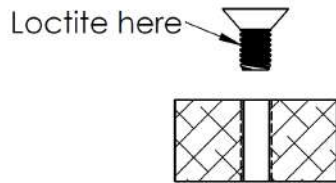

Fig.1 Through Hole
2. For through holes, apply threadlocker directly on screws (fig 1).